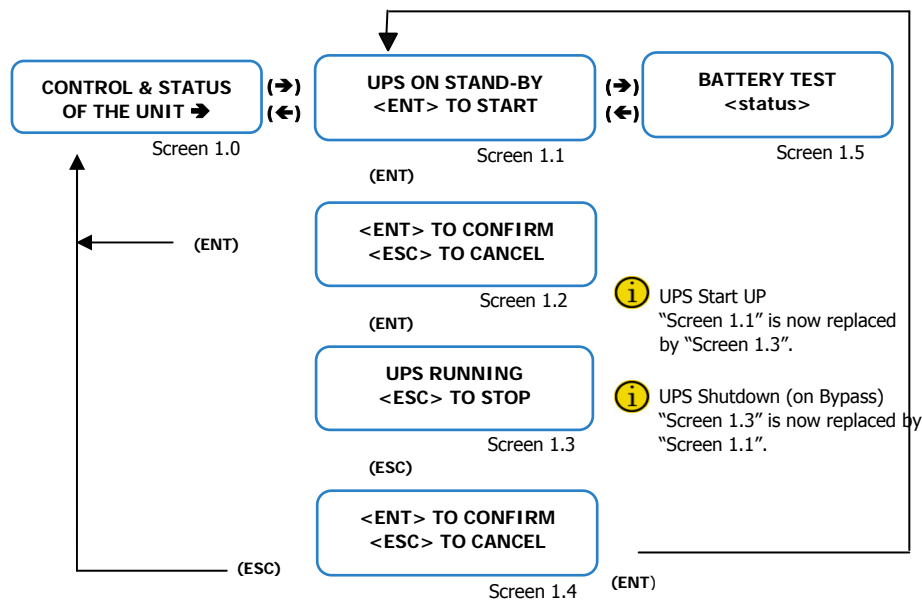
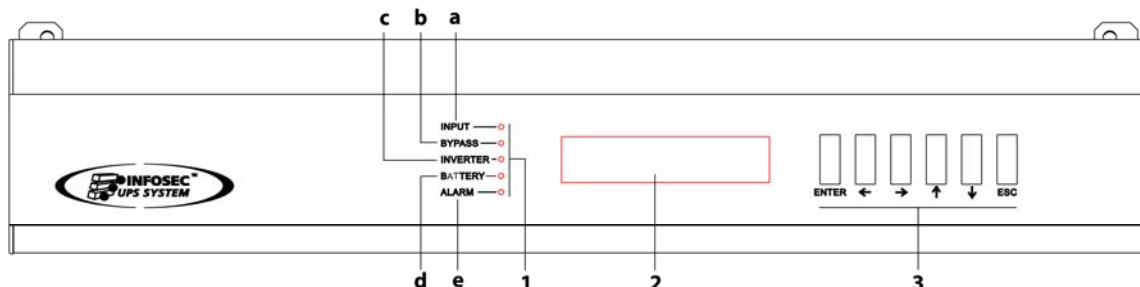
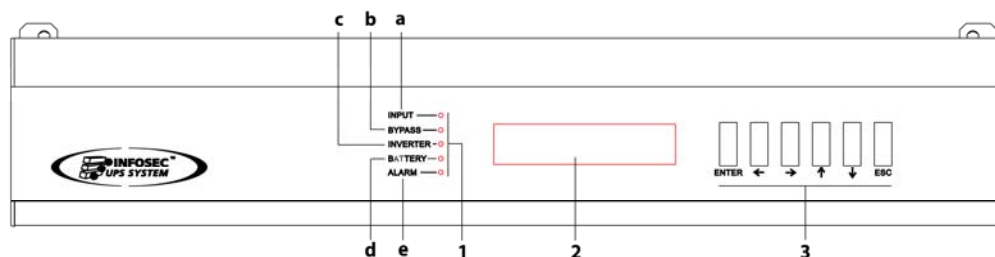

Fig.17. Procedure start-up / shutdown.
Fig.18. Control panel (PC) LED indications
Fig.19. Control panel parts.
At this point, with no alarm active, green LED indications of Input Voltage OK, and Unit on Bypass orange LED indicator light comes on ((a), (b) from figure 18).
Start up the inverter. The start-up operation will be done through the keypad of the control panel ((3) from Fig. 18). Go down to "CONTROL & STATUS OF THE UNIT" submenu (screen 1.0), and then right only once. Screen 1.1 will appear asking you to start the unit by pressing (ENT). Do so, and then confirm the operation by pressing (ENT) again. See following screen diagram (figure 17).
- Before continuing, make sure the LED indicator light (c) "INVERTER" is lit (green), and (b) "BYPASS" is turned OFF (see Fig. 18). Otherwise please contact the Service and Technical Support.
- Shut down the inverter. Go down to the "CONTROL & STATUS OF THE UNIT" submenu (screen 1.0) using the control panel keypad ((3) from figure 18), and then right once only. Screen 1.3 will appear asking you to shut down the unit by pressing (ESC). Do so, and then confirm the operation by pressing (ENT), see figure 17.
- Shut down the inverter. Go down to the "CONTROL & STATUS OF THE UNIT" submenu (screen 1.0) using the control panel keypad ((3) from figure 19), and then right once only. Screen 1.3 will appear asking you to shut down the unit by pressing (ESC). Do so, and then confirm the operation by pressing (ESC). Do so, and then confirm operation by pressing (ENT), see figure 18.
- Remove the screws fastening the mechanical block (BL).
- Remove the mechanical block (BL) of the manual bypass switch (Q5) and set it to the "On" position.
- Start up the inverter. Go down to the "CONTROL & STATUS OF THE UNIT" submenu (screen 1.0) using the control panel keypad ((3) from figure 19), and then right once only. Screen 1.1, asking you to start the unit up by pressing (ENT). Do so, and then confirm operation by pressing (ENT) again. See following screen diagram (figure 18).